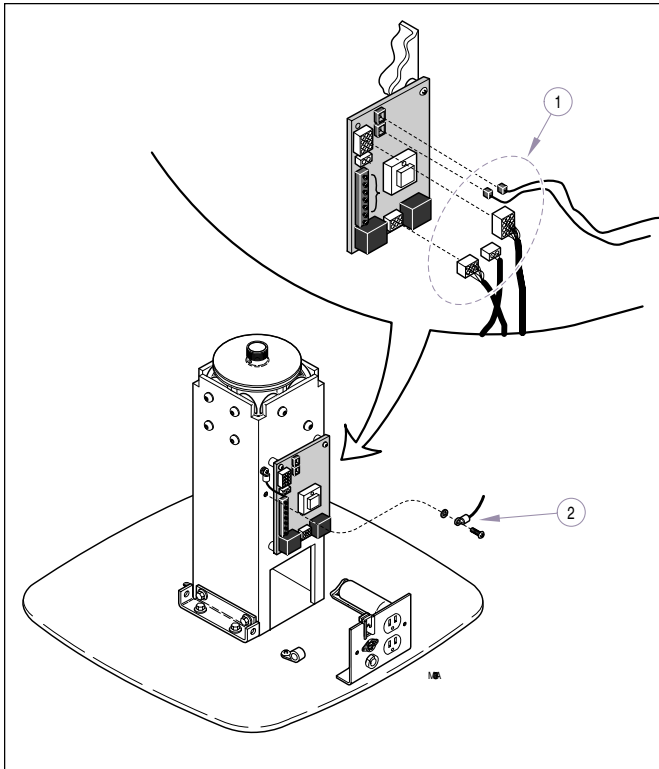
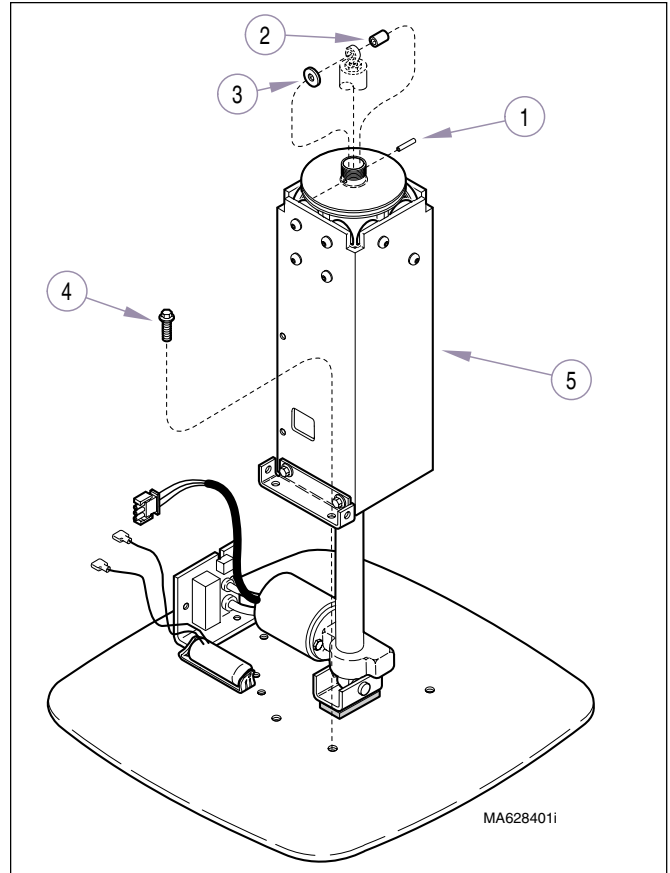

Figure 4-34. Main Harness
Figure 4-35. Main Harness
- (3) Using an assistance, lift table top (3) off column.
- (4) Remove shrouds (4).
- (5) Disconnect wire harness (1, Fig. 4-34) from PC board (2).
- (6) Remove ground wire (3).
- (7) Remove pin (1, Fig.4-35), spacer (2), and rubber washer(3).
- (8) Remove mounting bolts (4) and lift column assembly (5) from actuator shaft.
- (4) Install column assembly (5, Fig. 4-35) and secure with mounting bolts (4).
- (5) Install pin (1), spacer (2), and rubber washer (3).
- (6) Install ground wire (2, Fig. 4-34) and connect wire harnesses (1) to PC board.